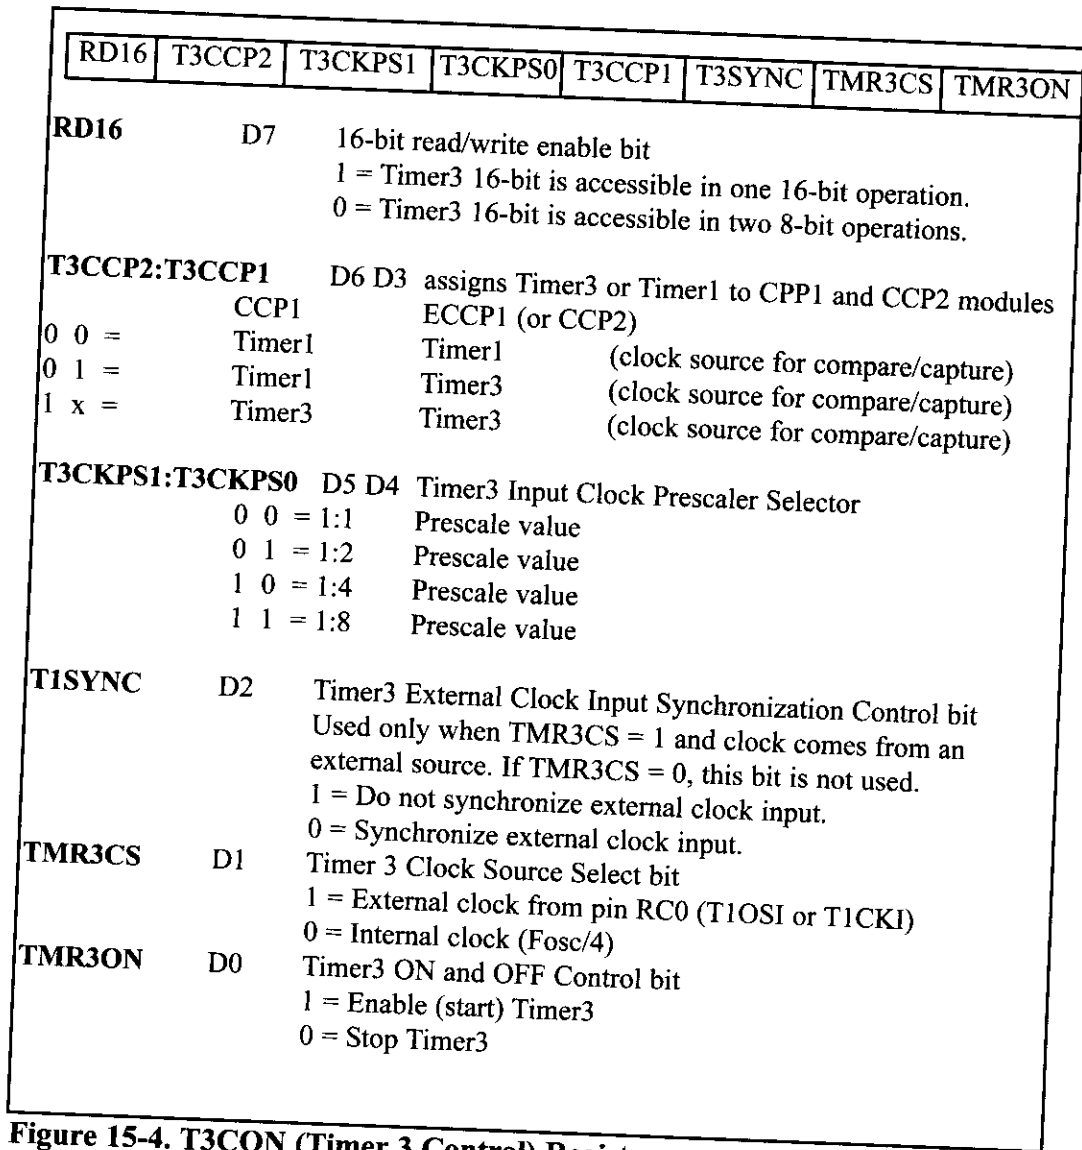
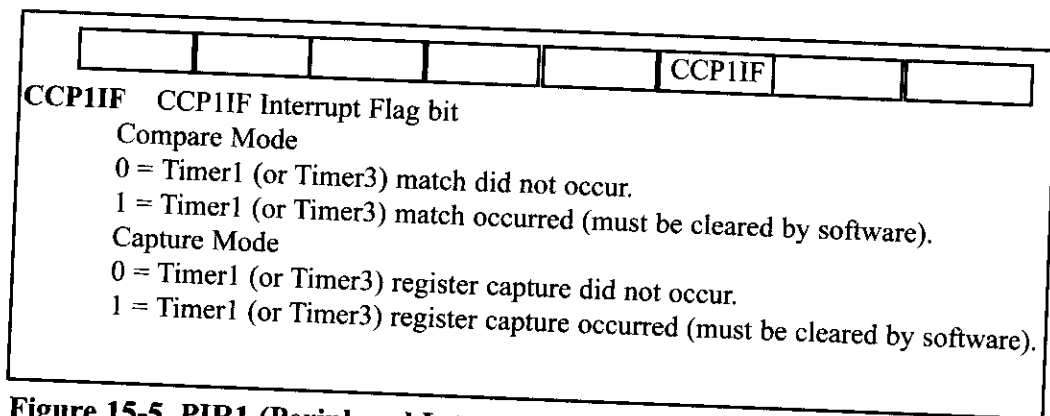

Figure 15-4. T3CON (Timer 3 Control) Register
Figure 15-5. PIR1 (Peripheral Interrupt flag register 1) Contains the CCP1IF Flag
We use the CCP1CON register to select one of the above actions. See Example 15-1. Note that upon match, the CCP1IF will also go HIGH. See Figure 15-5. Notice that for the above options of (a), (b), and (c) to work, the CCP pin must be configured as an output pin. From Figure 15-4 we use the T3CON register to select Timer1 or Timer3 for the Compare mode. In PIC18F452/458 (or their newer version, PIC18F4520/4580) chips with both CCP1 and ECCP1 modules on the chip, we can assign Timer1 to CCP1 and Timer3 to ECCP1, therefore making them work independently of each other. Also note that only option (e), the special event trigger, will cause Timer1 (or Timer3) to clear, while in other cases we must clear the timer.
- (b) From Figure 15-4 we have 01000010 (binary) or 0x42 for the T3CON register.